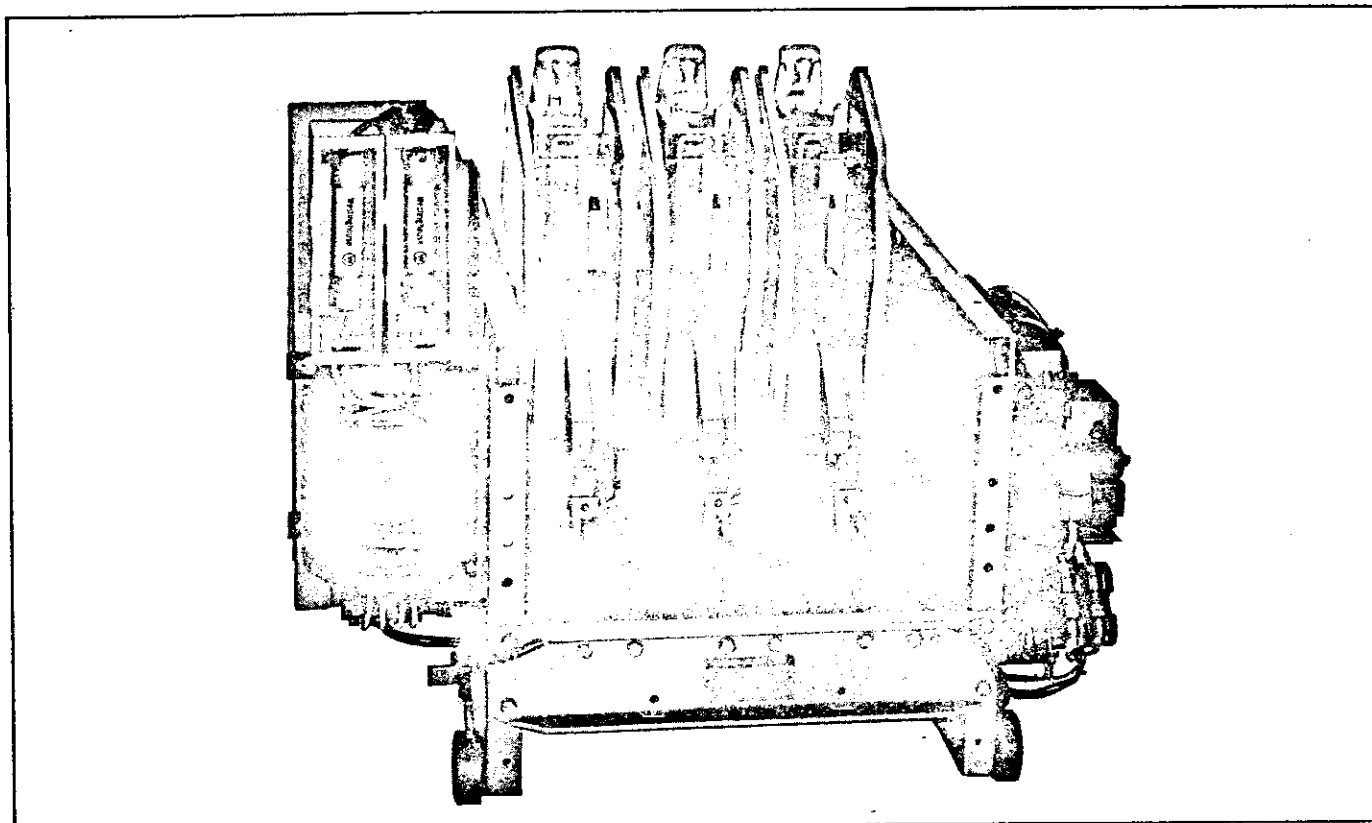

Fig. 7 Front View of Main Contacts and Shunts
To obtain access to the contacts and shunts for tightening or replacement, remove the phase barriers and arc chutes and rotate the magnetic blowout pole pieces upward to the vertical position as shown in Figures 7 and 9.
4. Install the new coil on the core assembly being sure the residual shim and coil retainer gasket are mounted as shown in Figure 7.